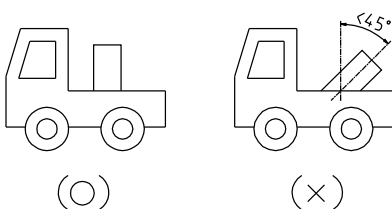
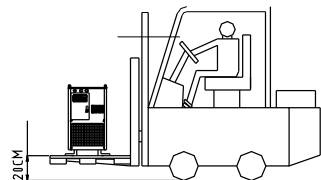

Figure 2
Figure 3
- (1) During the transportation and installation, keep the cooler position vertically all the time. The max. slant angle can not over 45 degree.(See Figure 2.)
- (2) Disconnect power line and vent the coolant in the cooler before move it.
- (3) If using forklift to move the cooler, keep the cooler lower than 20 cm height from the ground all the time. (See Figure 3)